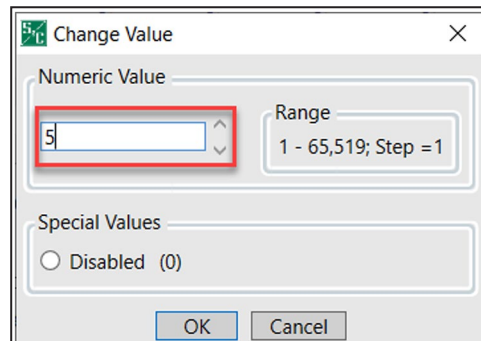

Figure 7. The Closed-Loop Center Switch RTU Address setting.
STEP 3. Click on the **Closed-Loop Load Center Switch RTU Address** field. The Change Value dialog box opens. See Figure 7. Enter the RTU address in the **Numeric Value** field and click on the **OK** button.